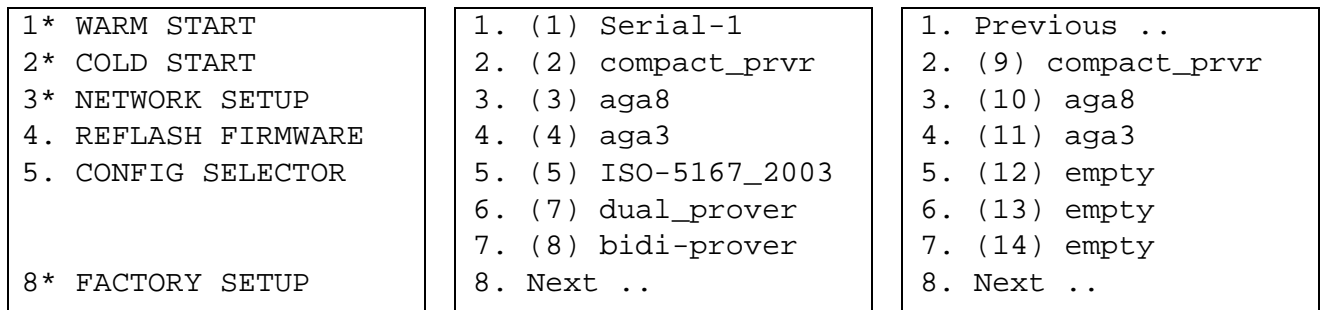

Figure 5-19. Selecting a Configuration Menu
1. Access the Cold Start menu and select **Config Selector**. The S600+ displays a series of menus listing all configurations currently loaded (shown in Figure 5-19).